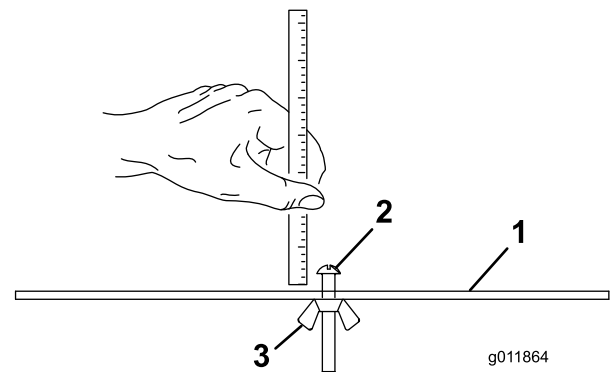

Figure 18
- Loosen nut on gauge bar (Figure 18) and set adjusting screw to desired height-of-cut. Distance between bottom of screw head and face of bar is height-of-cut.